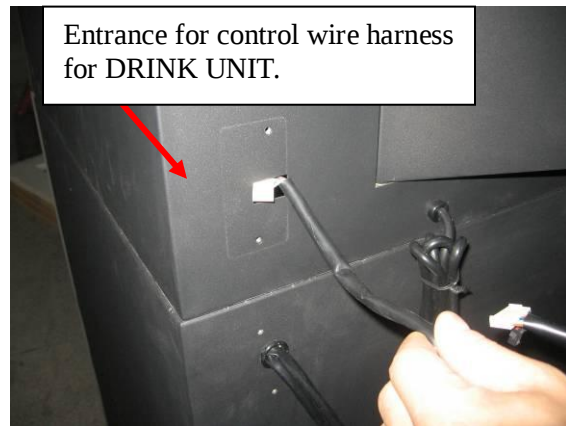

Figure 9
4. Insert the control wire harnesses of the DRINK UNIT into the SNACK UNIT via the wire guide hole and **connect them to the correct terminal board connectors (and small black power supply cable) in SNACK UNIT** (*figure 9, 10, 11*).